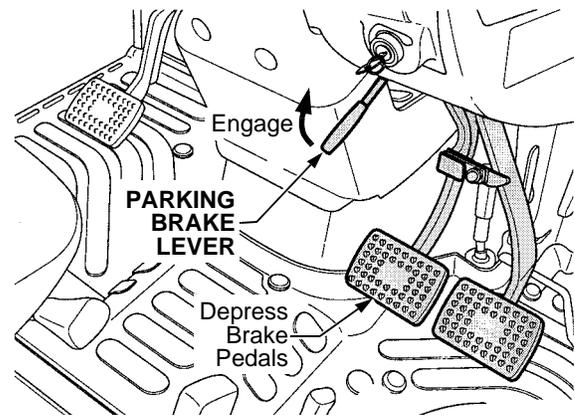

Figure 23
- Engage the parking brake. See Figure 23.